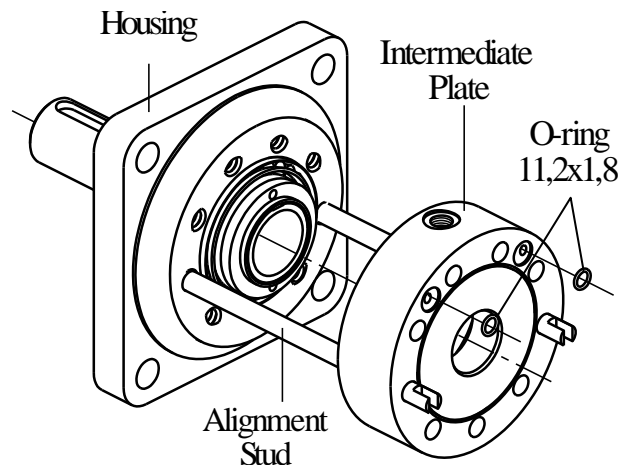

Fig.11
7. Install the Intermediate Plate (see Fig.11).